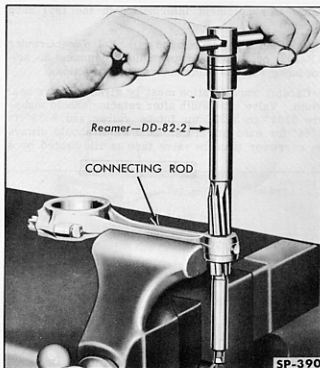

Fig. 14—Reaming Connecting Rod Bushing
3. After checking the piston pin fit in the piston, check its fit in the connecting rod bushing. This should be a light "press fit." If the pin is too tight, ream the inside diameter of the bushing with Piston Pin Reamer DD-82-2 (Fig. 14) to .8593-.8595 inch for a standard pin or, if an oversize pin is used, ream the bushing .003 to .005 inch oversize.